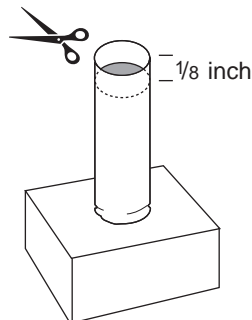

Figure 6: Cutting the excess paper
3. Remove the funnel and the compacting dowel. Cut off the excess paper 1/8 inch above the tamped-down chemical. (See Figure 6.)